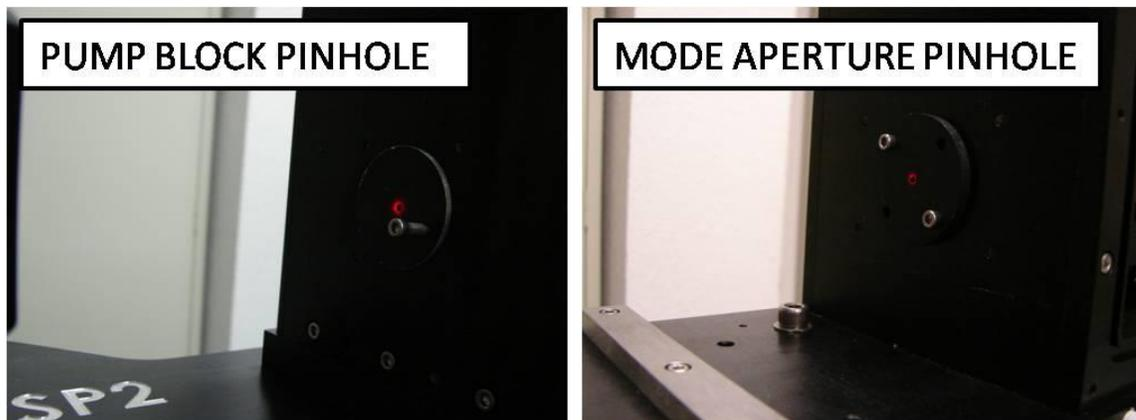

Figure 27: Alignment Beam Centered on Pinholes
there are about 10 or more layers. Hold the folded sheet so that the folded edge is facing outward. Saturate the pad with optical grade solvent (ethanol is preferred), and shake the pad of excess solvent. Ensure that the optical surface is free of any dust or particulate that could damage the surface if dragged across, then make a single wiping motion across the face of the optic (Figure 27), “rolling” the wiper as it moves across the face so that fresh surface is continually exposed. Only one swipe across the face should be done at a time, and the used wipers should be disposed of. After one wipe across the coupler face, hold the coupler so that you can see light reflected on its surface, and watch as the ethanol evaporates. If the optical surface is very clean, the solvent should evaporate quickly and evenly, leaving no streaks. If you see portions of the surface where the solvent evaporates much more slowly, there is probably contamination still present, which the solvent is clinging to. If this is the case, another pass, with a new folded set of wipers, should be done.
- 4.40. Turn on the alignment laser and adjust the mirrors of the alignment fixture so that the alignment laser beam has equal illumination around the circumference of both of the alignment pinholes. See Figure 27.